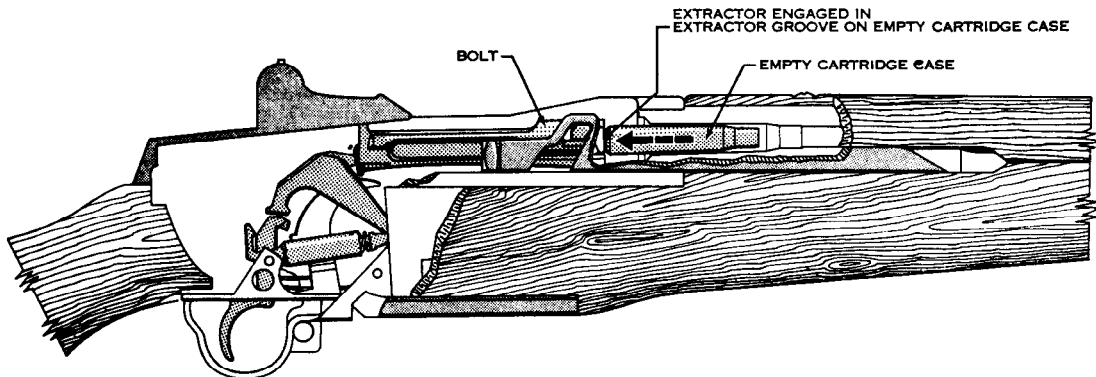

Figure 30. Extracting.
- (6) *Extracting.* Extracting is pulling the empty cartridge case from the chamber. The extractor, which is engaged with the extracting groove on the cartridge case, withdraws the empty case as the bolt moves to the rear (fig. 30).